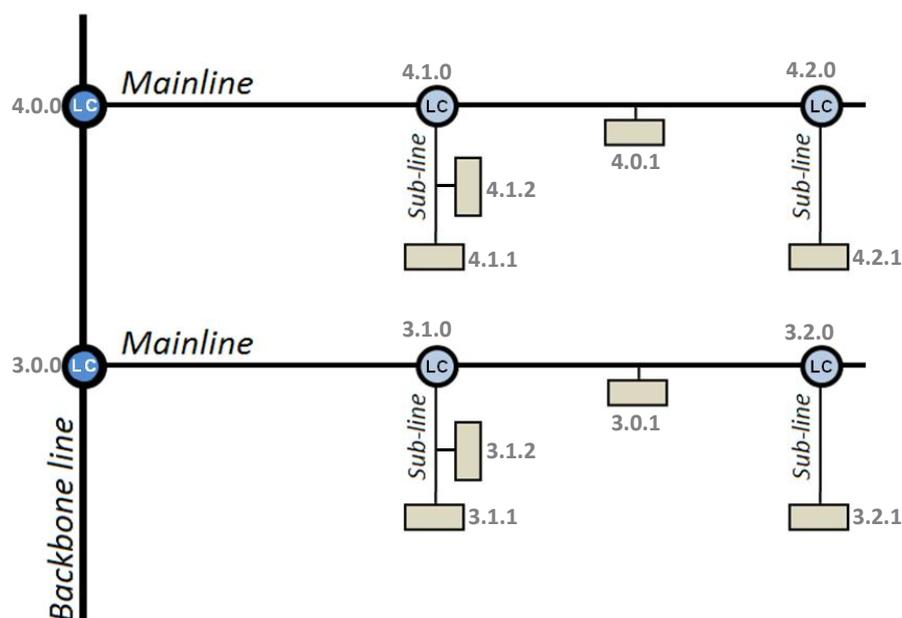

Figure 4 Line Coupling Scenario
Another scenario is shown in Figure 4.
✓ **Example:** in the example shown in Figure 4, if the line coupler with address 3.2.0 reads a telegram on the mainline destined to the device with physical address 3.1.2, it will compare both addresses and conclude that 3.1.2 is not an address belonging to its line and will therefore not transmit it to its secondary line.
**Note:** the device that sends a telegram needs to have been assigned a physical address that really corresponds to its line. In Figure 4, if the device with address 3.1.1 (let it be a KNX programmer, for instance) changes its address to 7.7.255, it will not be able to send telegrams to, for example, the device with address 4.0.1.